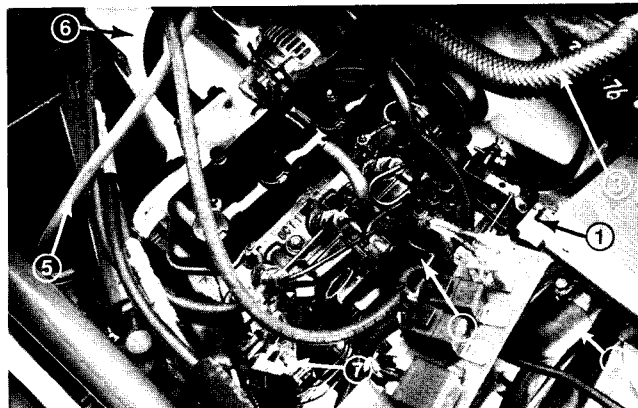

Figure 56
3. Open the radiator cap. Put a drain pan under the radiator. Open the radiator drain valve or loosen the hose clamp and disconnect the lower radiator hose from the radiator (Fig. 56). Allow the coolant to drain into the drain pan.
4. Loosen the hose clamps and disconnect the upper radiator hose from the engine and radiator (Fig. 56). Loosen the hose clamps and disconnect the air intake hose from the engine air intake fitting and air cleaner.
5. Remove the muffler (Fig. 56).
7. Disconnect the steering cylinder from the frame and rear castor (Fig. 56). Do not disconnect the hydraulic lines.
2. Remove the plug from the cylinder block (Fig. 56) to drain the coolant from the head and cylinder block.